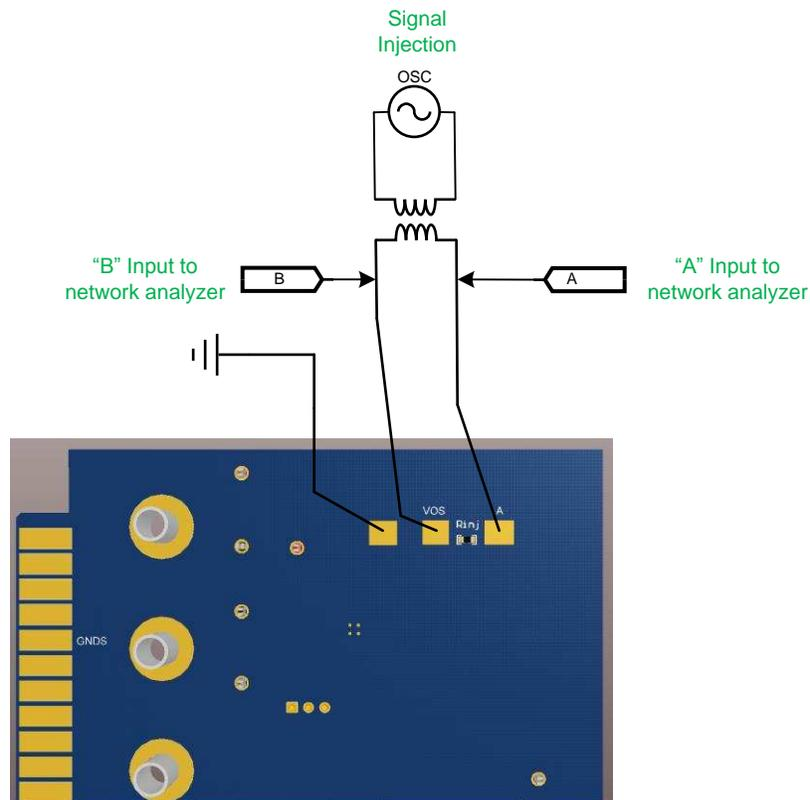

Figure 4. FRA Set-up
- **A** - Connection for frequency response analyzer (on bottom of board). See Figure 4